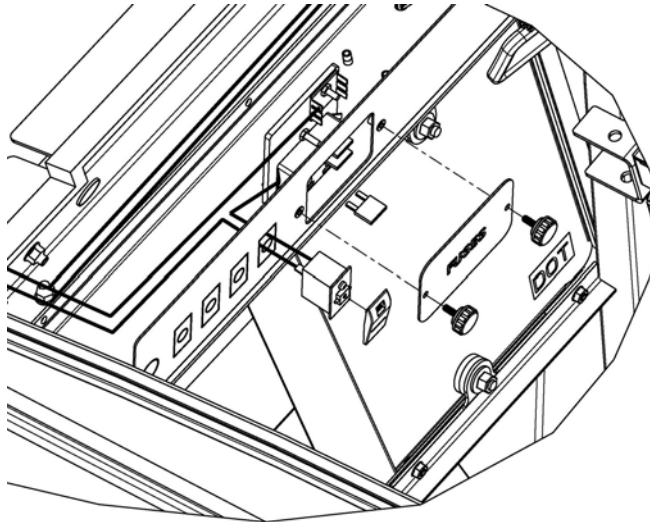

**Figure 2**
- 2) Remove (2) 2-1/4" hole plugs located on in the front upper cross member panel (**Figure 2**).
- 3) Top and each side of cab, secure (1) LED work light (8) to front upper cross member panel using metric hardware supplied with light (**Figure 2**).
- 4) Remove factory installed 1" hole plug located on front upper cross member panel as shown in **Figure 2**.
- 5) Install 1" universal grommet (5) into location noted in step 4.
- 6) Connect lights end of wire harness (6) to each work light (8).
- 7) Route remaining end of wire harness (6) from each work light (8) through the 1" universal grommet (5) to the switch fuse block location (**Figure 2**).
- 8) Select an empty location on switch panel to install rocker switch (3). Remove rectangular knockout (**Figure 2**).